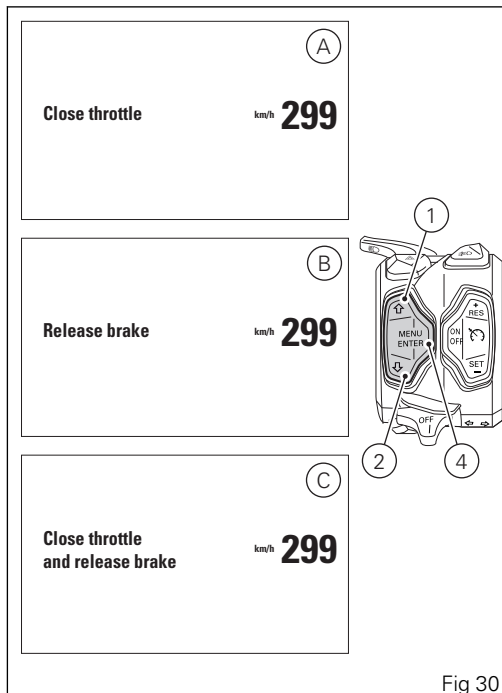

Fig 30
- if throttle is "open" the instrument panel activates the "CLOSE THROTTLE" (A, Fig 30) indication; only when throttle is "closed" the new selected riding mode is confirmed and memorized, and the instrument panel goes back to "standard page" displaying;
- if throttle is "closed" but brakes are operated, the instrument panel activates the "RELEASE BRAKES" (B, Fig 30) indication and only when brakes are released the new selected riding mode is confirmed and memorized, and the instrument panel goes back to standard page displaying;
- if throttle is "open" or if brakes are operated and vehicle is moving, the instrument panel shows "CLOSE THROTTLE AND RELEASE BRAKES" (C, Fig 30) and, only after all conditions are met (closed throttle and brakes released or vehicle stopped) the instrument panel confirms and memorizes the new selected riding mode and goes back to "standard page" displaying.